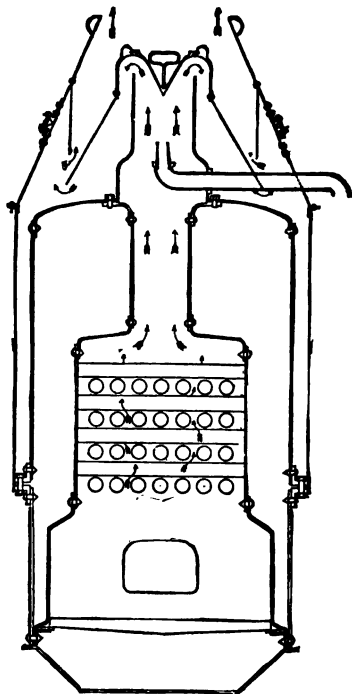

FIG. 14.—WESTINGHOUSE CROSS-TUBE BOILER.
**A.** There are two parts of the shell; the lower forming the fire box and containing water tubes, and the upper one a shell surrounding the tubes and composing the water and steam space. The two are joined by strongly bolted rings. in connection with the vertical smoke tube at the top, and can be taken apart to clean the boiler or repair the tubes. The circulation is across the combustion chamber, through the horizontal water tubes, and is determined in one direction by a little cast iron hood at one end of each tube. Sparks are deadened and held by deflecting hoods. See Fig. 14.